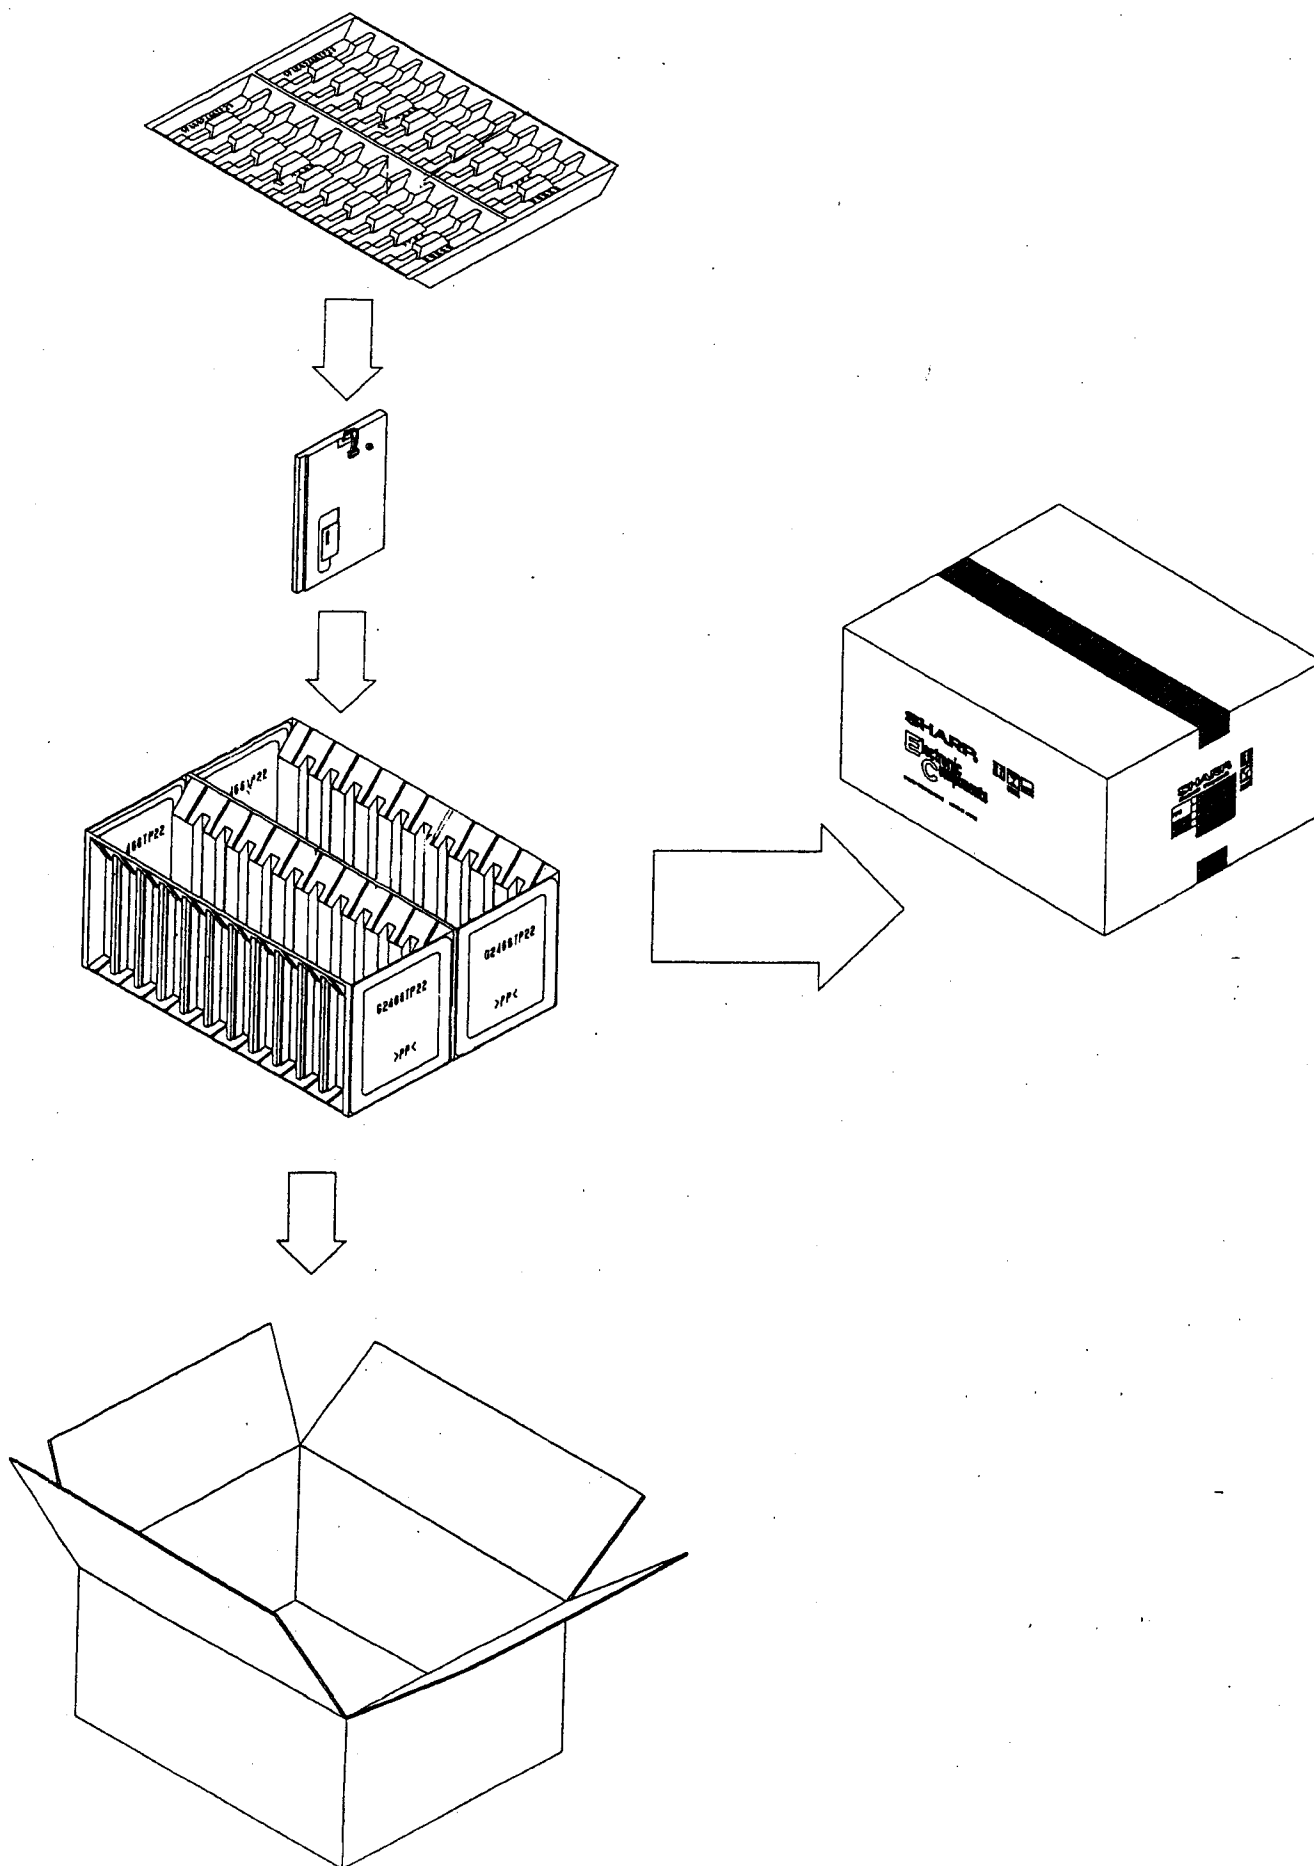

Fig. 3 Packaging
12.1 Fig.3 shows packaging form.